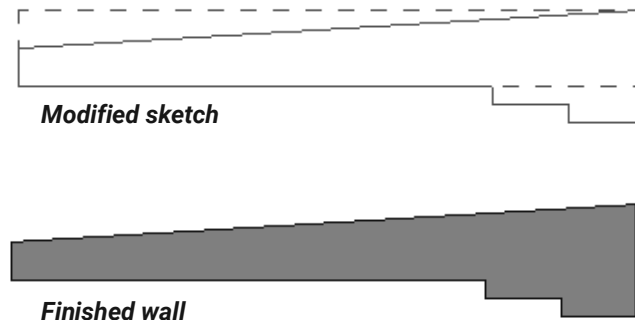

Figure 7–22
5. Once the profile is complete, click  (Finish Edit Mode). The wall now follows the new profile, as shown on the bottom in Figure 7–22.
You can add openings in walls that are not windows or doors by using the **Wall Opening** tool. This creates rectangular openings for both straight and curved walls, as shown in Figure 7–23.